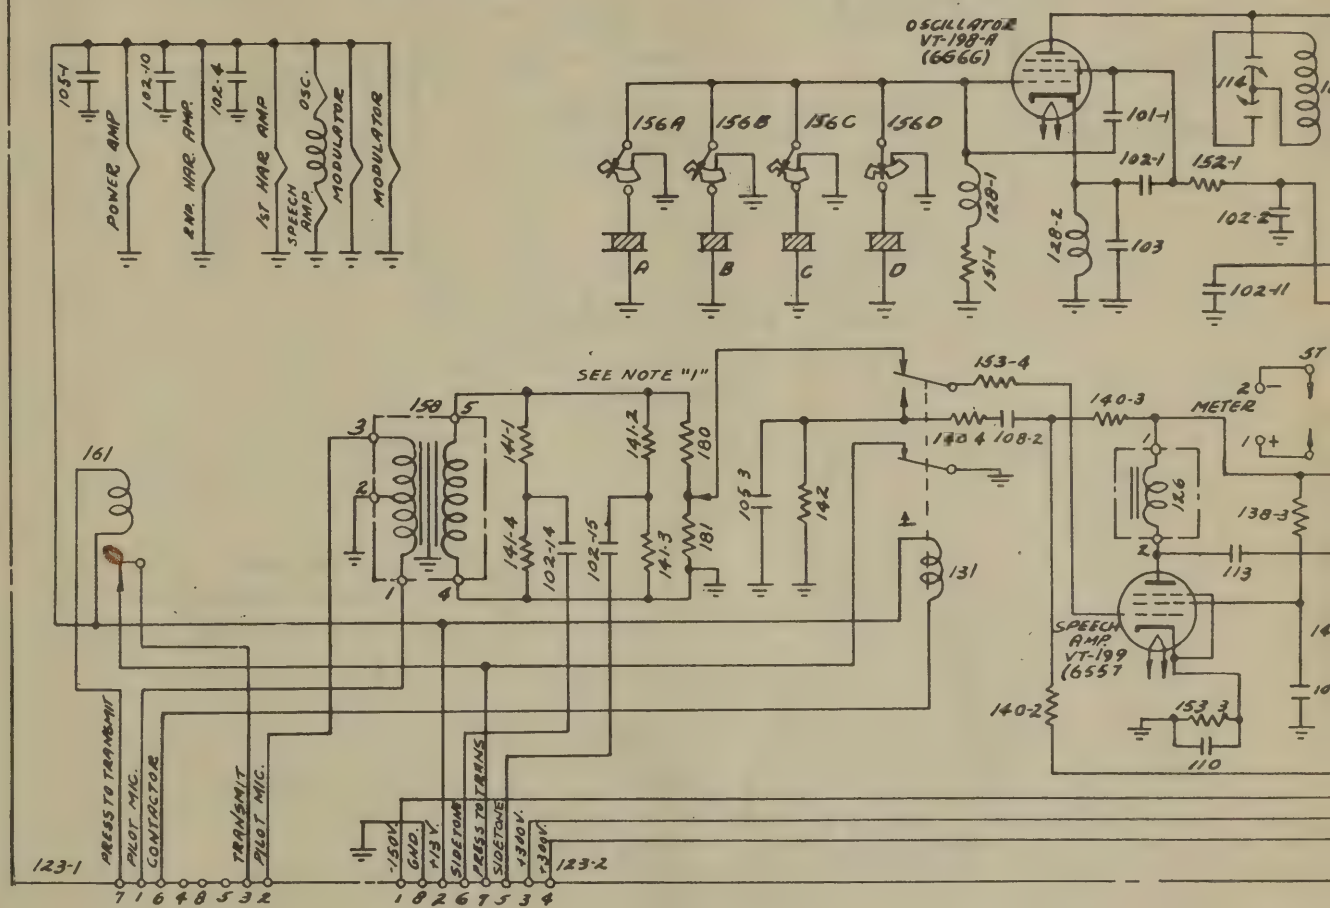

FIGURE 7-
- Figure 7 —Original schematic of BC-625 transmitter.